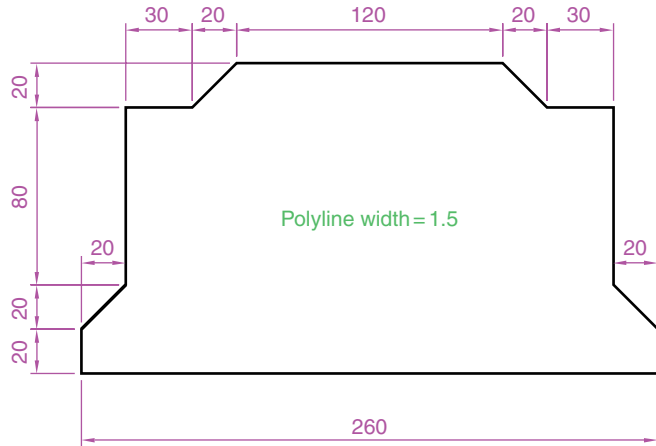

Fig. 2.35 Exercise 7
7. Using the **Polyline** tool, construct the outline given in Fig. 2.35.